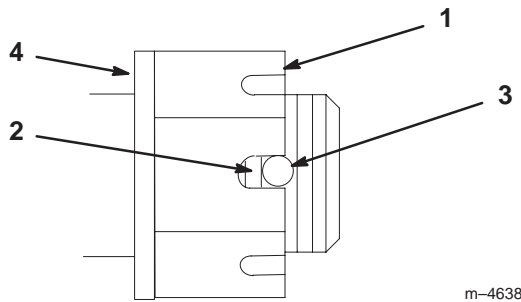

Figure 49
3. Torque slotted nut to 125ft-lb (169 N•m) (Fig. 49).
4. Check the distance from bottom of slot in nut to inside edge of hole. Two threads or less should be showing (Fig. 49).
5. If more than two threads are showing remove nut and install washer between hub and nut (Fig. 49).
6. Torque the slotted nut to 125ft-lb (169 N•m) (Fig. 49).
7. Tighten nut until the next set of slots line up with the hole in the shaft (Fig. 49).